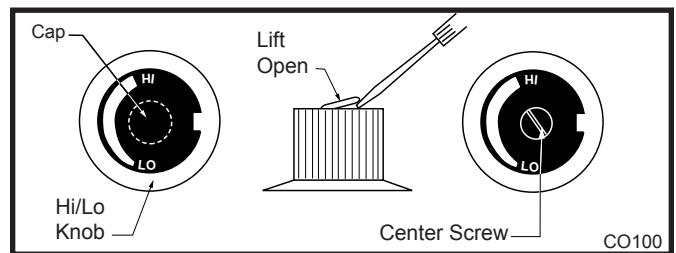

Fig. 50 Remove center screw from Hi/Lo knob.
1. Remove cap from Hi-Lo knob. This can be accomplished by lifting the plastic cap off the screw. (Fig. 50)
2. Remove the screw from center of Hi-Lo knob with small screwdriver turning counterclockwise. (Fig. 50)